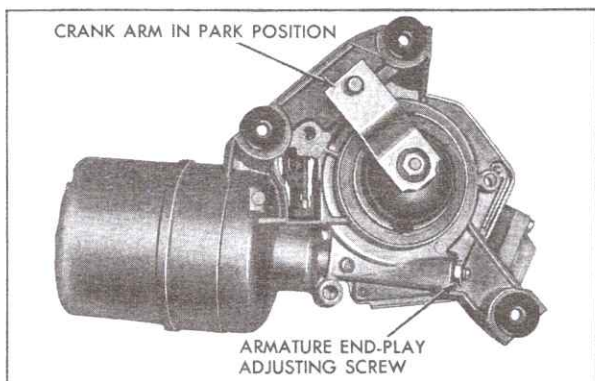

Fig. 12-25 Crank Arm in Park Position
1. Install wiper and washer assembly on cowl and secure with three attaching screws. Be sure wiper unit crank arm is in PARK position as shown in Fig. 12-25.
11. Install crank arm on drive plate and shaft assembly as shown in Fig. 12-25 and secure with attaching locknut. Tighten locknut securely.